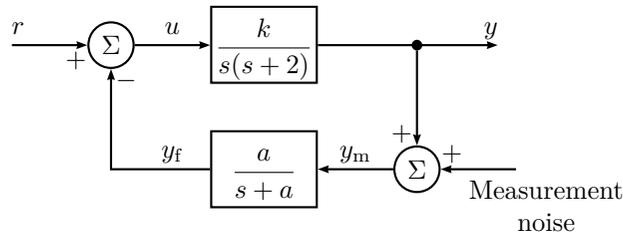

Figure 3.11a
3.11 Consider the system in Figure 3.11a. In a realistic situation what you really measure is not $y(t)$ but a signal $y_m(t)$ which is the sum of $y(t)$ and measurement noise. To avoid that the control is based on noisy measurements one uses $y_f(t)$ instead of $y_m(t)$. The signal $y_f(t)$ is $y_m(t)$ filtered through the low pass filter